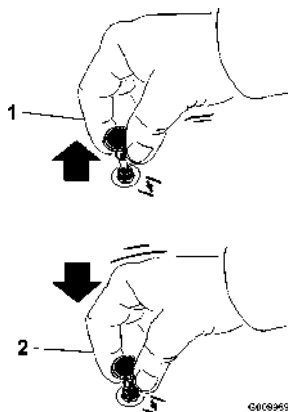

Figure 12
1. Pull up the choke knob to engage the choke before using the key switch (Figure 12).
2. Push down the choke knob to disengage the choke after the engine has started (Figure 12).